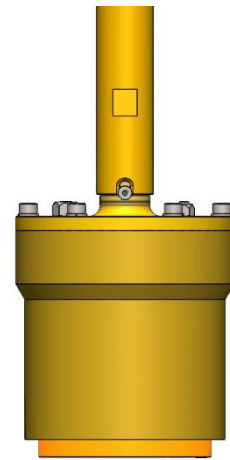

Figure 7 - Retaining slot and countersunk M4 screw interface
5. Tighten the extension tube until the hole for the countersunk M4 screw aligns with the retaining slot, see Figure 7. Ensure the heading mark on the bottom of the transducer aligns with the flattened area on the extension tube.